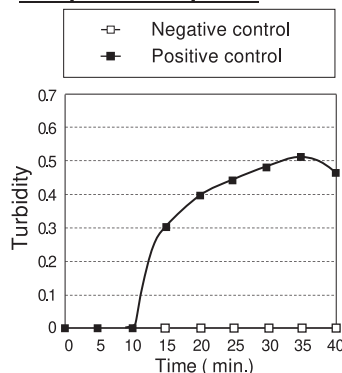

Fig. 1: Amplification plots for controls.
- (1) Configure the Real-Time Turbidimeter HumaTurb C+A for detection with this product.
- (2) Check whether the temperature displayed reaches 67.0 °C (allow the turbidimeter to warm up for 20 minutes before use).
- (3) Place the reaction tubes and start measurement.
- (4) Watch the turbidimeter display to check the positive and negative controls for any increase in the turbidity. If the turbidity increases in the positive control but does not in the negative control, the amplification reaction is proceeding correctly (Fig. 1). If any other situation occurs, however, the amplification reaction might be proceeding in the wrong way. In such a case, retest the affected samples.
- (5) Confirm the completion of polymerase inactivation (automatically completed by the turbidimeter). Take all reaction tubes out of the Real-Time Turbidimeter HumaTurb C+A and discard them without opening.
After confirming that the turbidity increases in the positive control but not in the negative control, evaluate samples per the following criteria (Figs. 1 and 2).